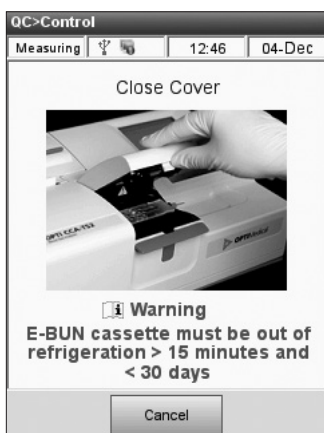

Fig. 4-24 E-BUN Close Cover
- Close the SMC cover (Fig. 4-24).